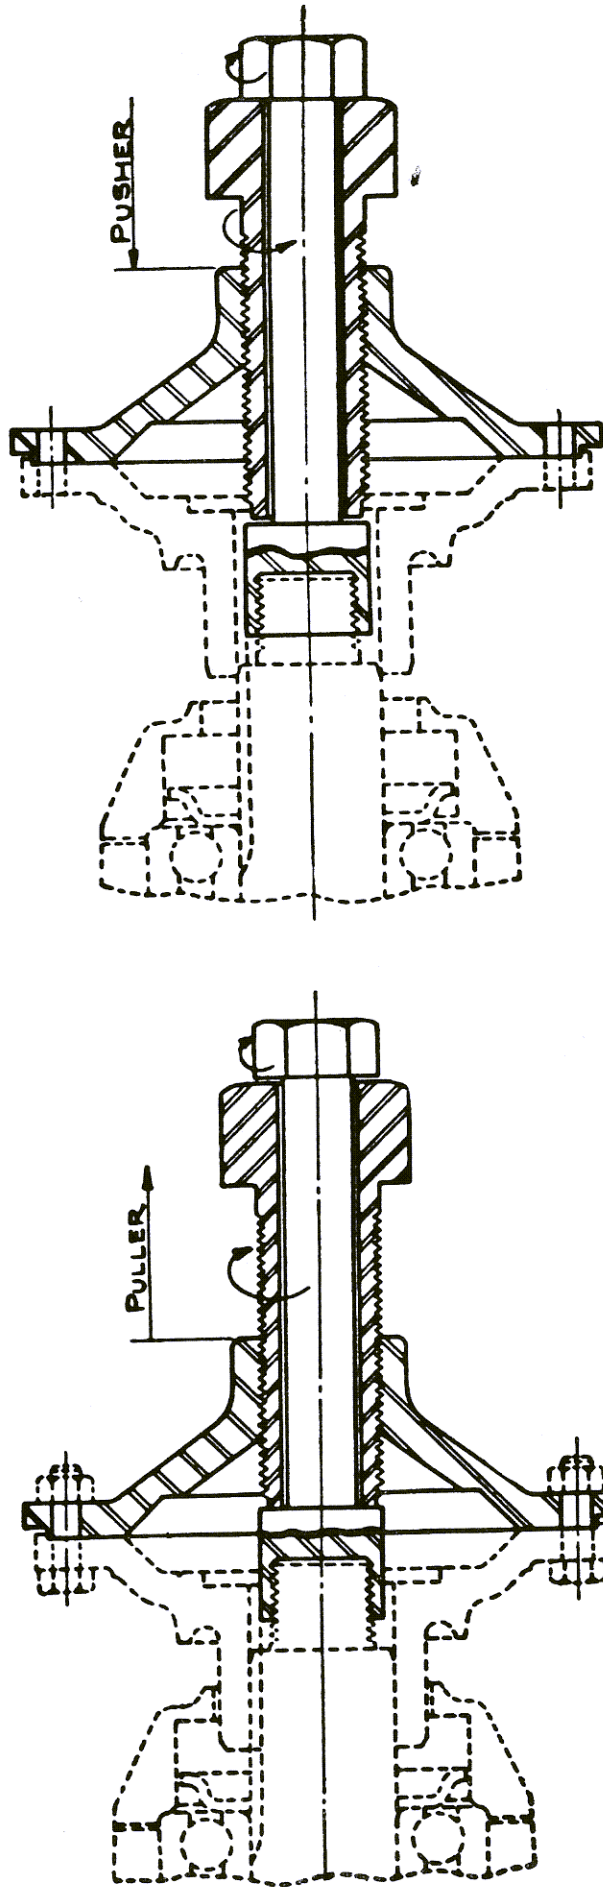

Figure 12
3. Remove pinion flange with puller, shown in Figure 12.